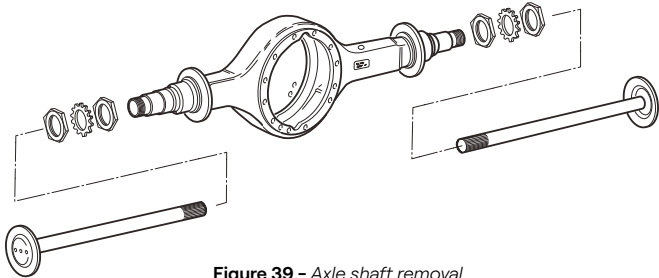

Figure 39 - Axle shaft removal
3. Remove the axle shaft by sliding it out from the center of the hub (**Figure 39**).